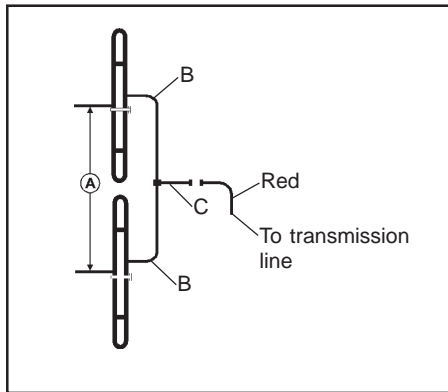

Figure 7 - DB212-2
##### Installing the DB212-2 (refer to Figure 7):
9. Connect the antenna feed cable (see Figure 7) from Dipole 2 to the "Tee" connection on the phasing harness attached to Dipole 1. Make all connections snug but do not apply heavy force with pliers. This should leave the phasing harness transformer (color coded red) open for connection to the station transmission line.